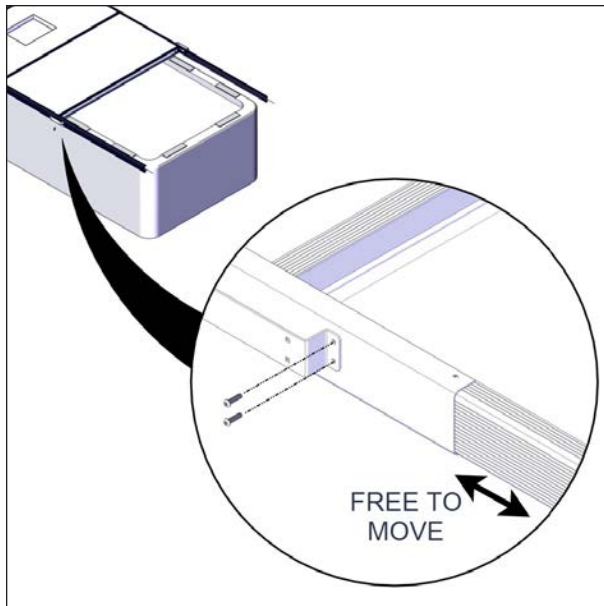

FIGURE 50: SCREW INSTALLATION
12. Install two 1/4" x 1" hexagonal round head screws on the support bracket see Figure 50. DO NOT tighten those screws yet. The side extension C-channel must be free to move in its slots.